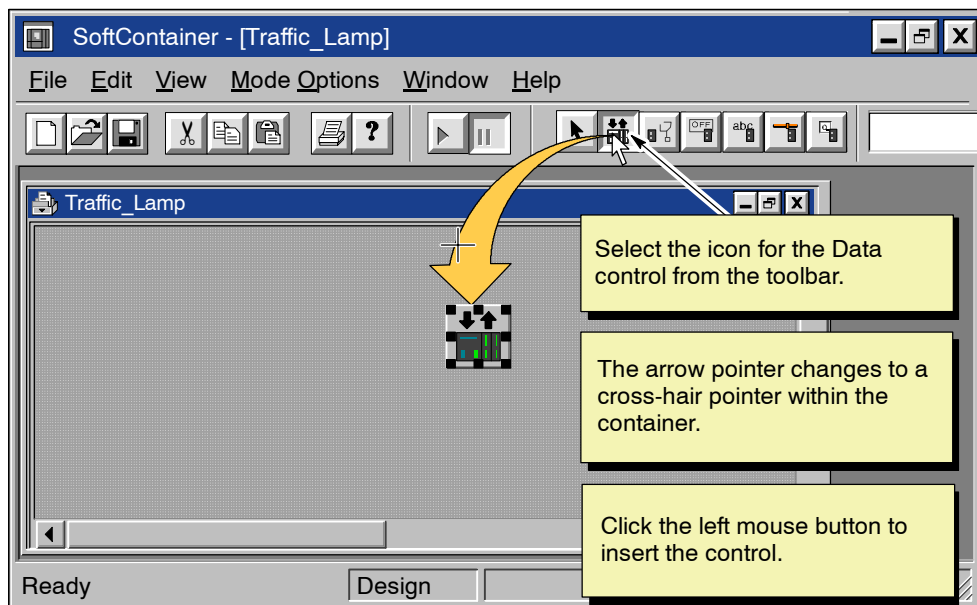

Figure 3-10 Inserting a SIMATIC Data Control from the Toolbar
1. As shown in Figure 3-10, insert a Data control: